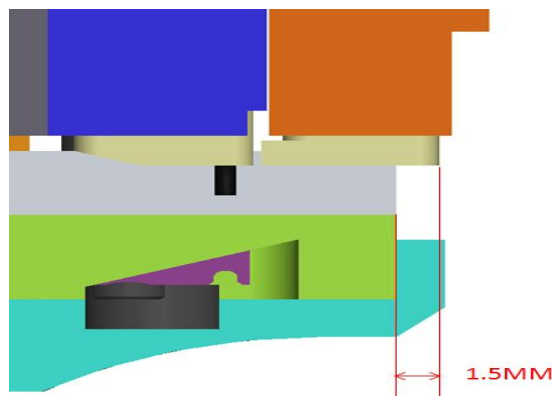

Figure25
B. To the suction location: The strip cutter moves forward to the suction location of connected adhesive films. As shown in Figure 25.